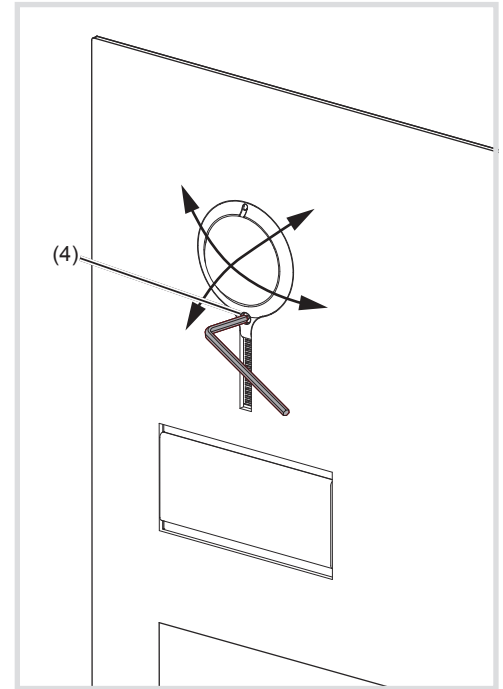

Figure 14: Alignment of the camera
- Loosen the locating screw (4) for the camera with the 1.5 mm Allen key supplied (Figure 14).
- Align camera (Figures 14/15/16).